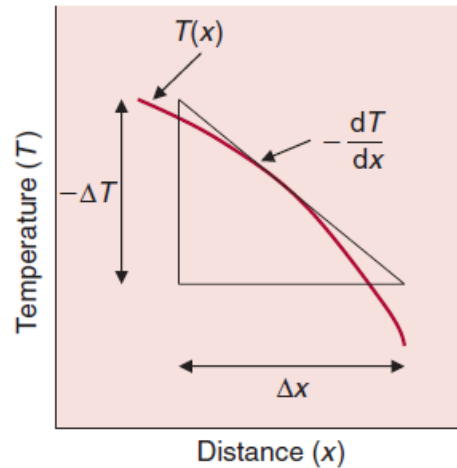

Figure 2. Sign convention for conductive heat flow.
Equation (3) is also called the Fourier's law for heat conduction, after Joseph Fourier, a French mathematical physicist. According to the second law of thermodynamics, heat will always conduct from higher temperature to lower temperature. As shown in Figure 2, the gradient dT/dx is negative, because temperature decreases with increasing values of x . Therefore, in Equation (3), a negative sign is used to obtain a positive value for heat flow in the direction of decreasing temperature.